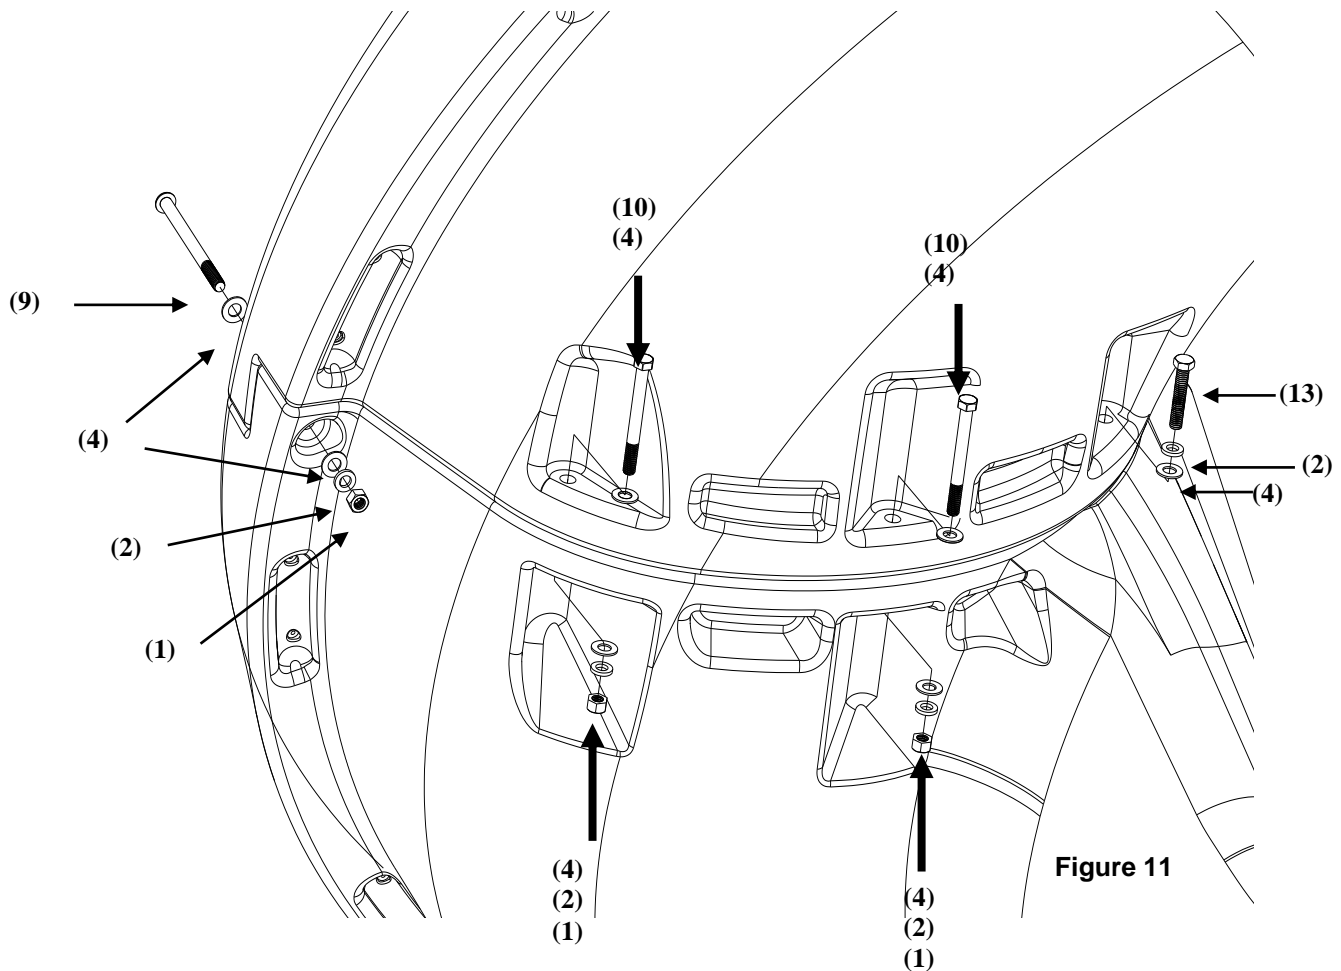

Figure 11
- 12) Finish assembling the two runway sections using the hardware shown in Figure 11. **Note: Be sure to apply anti-seize to all fasteners to prevent galling.**